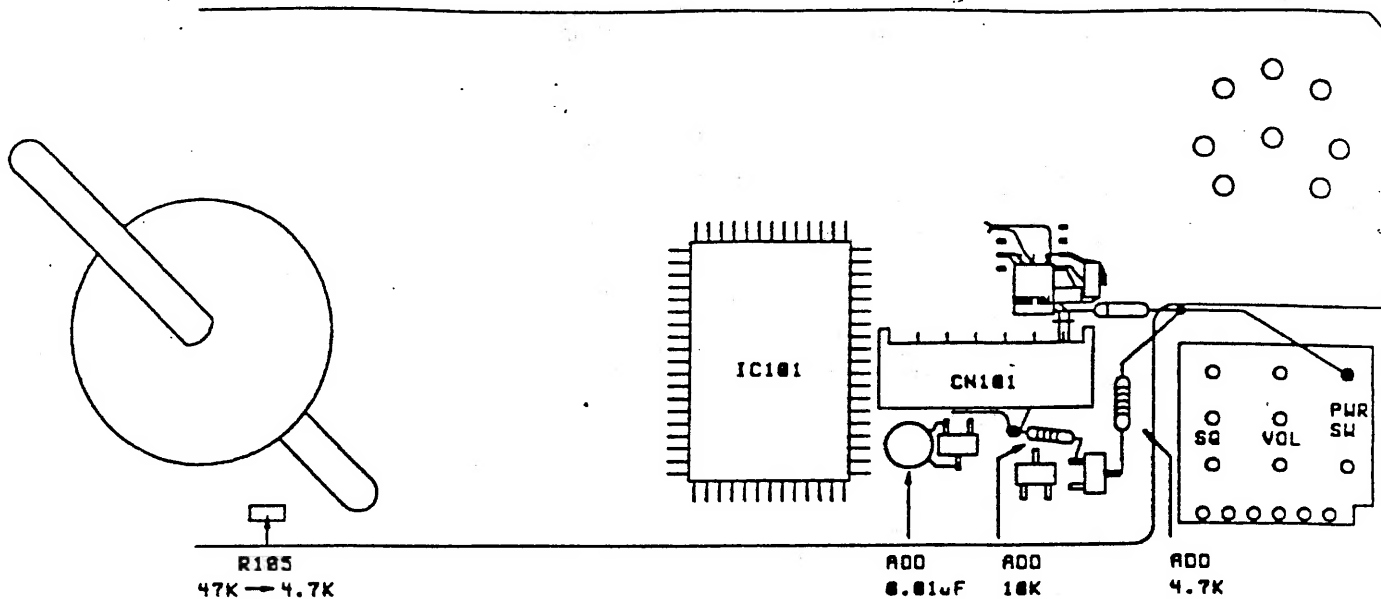

FIGURE 10
21. Prepare the .1uF capacitor, 10K ohm resistor, and 4.7K ohm resistor for installation. Place the parts on the board to size and cut the leads. Once the parts are prepared, solder them to the board. Figure 10
22. Locate R105. If the component is 47K ohm, change it to a 4.7K ohm chip resistor. The component's value can be determined by the numbers written on the case. If the device is labeled 473, it is a 47K ohm resistor and needs to be replaced. If the device is labeled 472, it is a 4.7K ohm resistor and does not need to be replaced. Figure 10